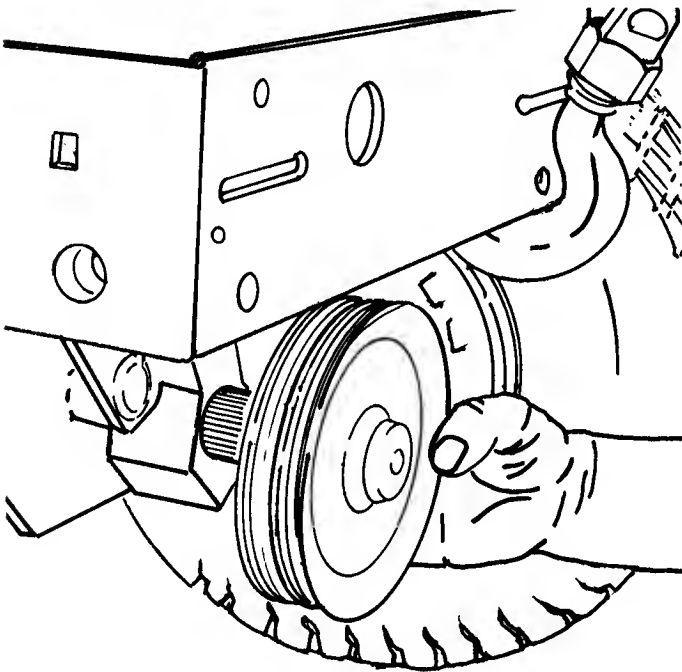

FIG. 2.21 — REMOVING FRONT PULLEY
2. Remove retaining ring and remove pulley. Fig. 2.21.